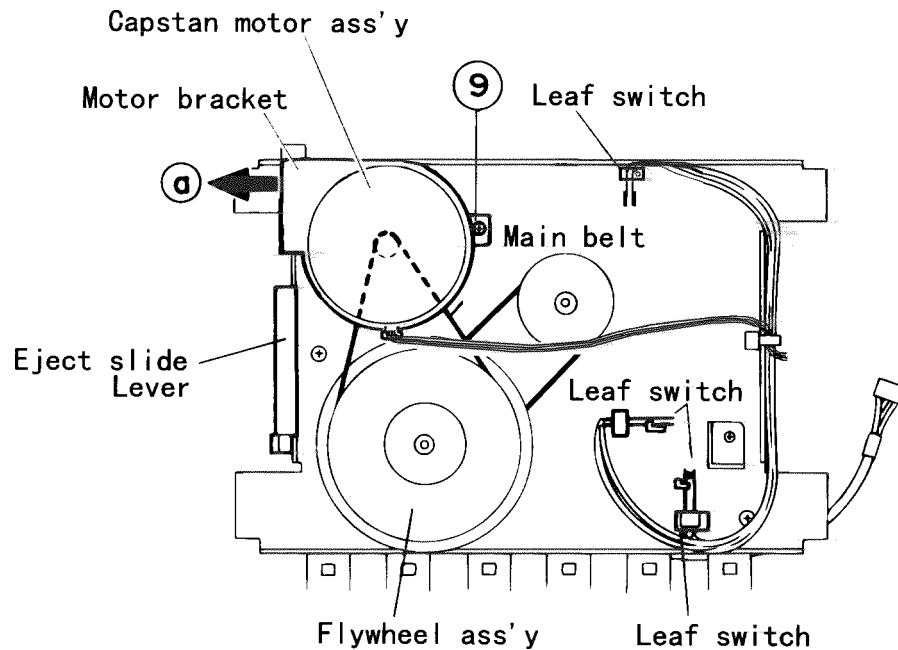

Fig.2-10
■ Capstan motor (Fig.2-10)
2. Remove one screw (9) retaining the capstan motor assembly from the back of the cassette mechanism assembly.